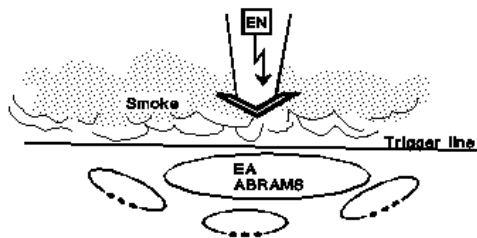

Figure D-5. Using smoke to confuse the enemy and silhouette his vehicles.
- o **Obscuration.** Smoke can be fired on enemy positions to degrade the vision of gunners and known or suspected OPs, preventing them from seeing or tracking targets and thereby reducing their effectiveness. Employed against an attacking force, nonthermal smoke can cause confusion and disorientation by degrading the enemy's command and control capabilities; at the same time, friendly units retain the ability to engage the enemy using thermal sights and range bands. In addition, enemy vehicles become silhouetted as they emerge from the smoke. If smoke employment is planned and executed correctly, this will occur as the enemy reaches the trigger line (see Figure D-5, page D-26).